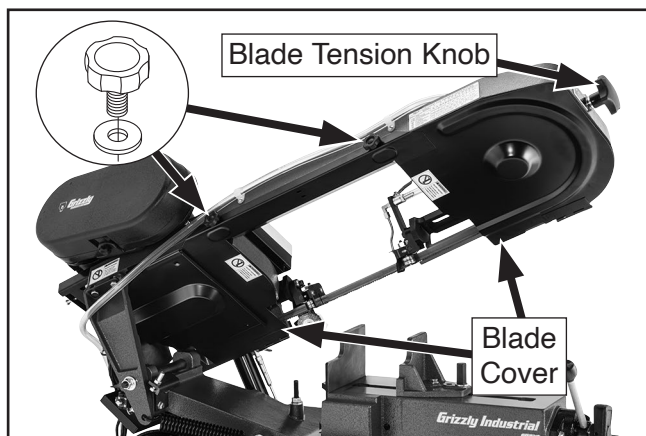

Figure 37. Blade cover fasteners and blade tension knob.
4. Remove (2) knobs and flat washers (see **Figure 37**), then open blade cover.
7. Release blade tension by turning blade tension knob counterclockwise (see **Figure 37**).